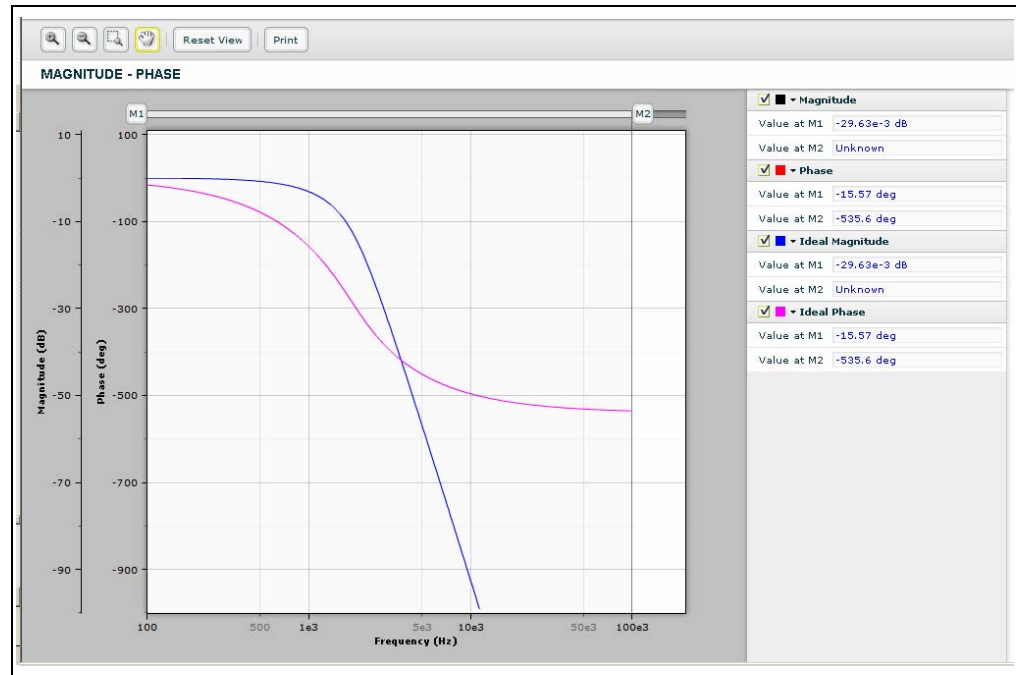

FIGURE B-4: *Magnitude - Phase Response with Bessel Approximation.*
- Moderate magnitude response and the attenuation above pass-band frequency which is not as steep as a Butterworth response of the same order. (Figure B-4)
The magnitude - phase response of the 6th order Low-pass filters with Bessel approximation is shown in Figure B-4.